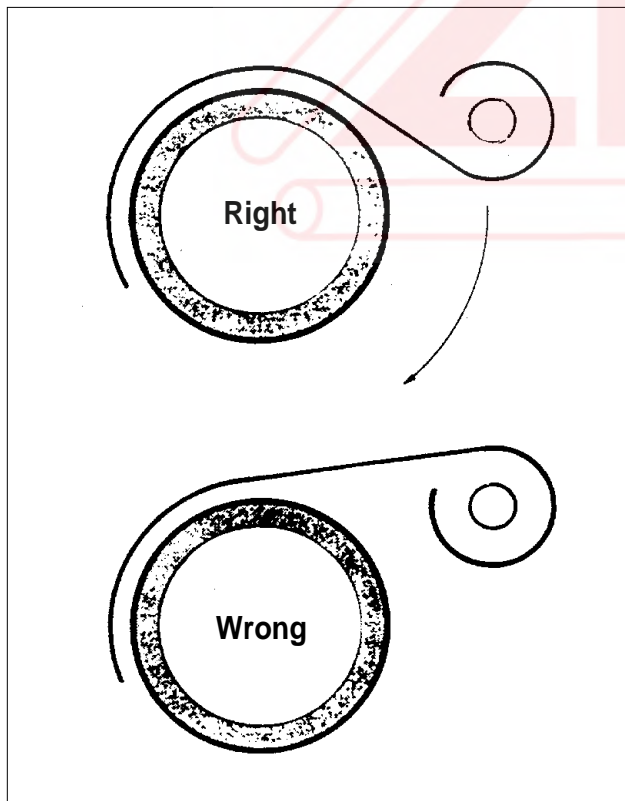

Figure 1
- 7.3 Hold end of tape firmly against the starting point and firmly press on the surface. Unroll the tape, keeping the roll close to the surface. Do not get a long lead of tape as it will tend to fold and gap on the surface being wrapped. The tape is best applied by rolling it around the pipe and giving it proper tension (See Figure 1).